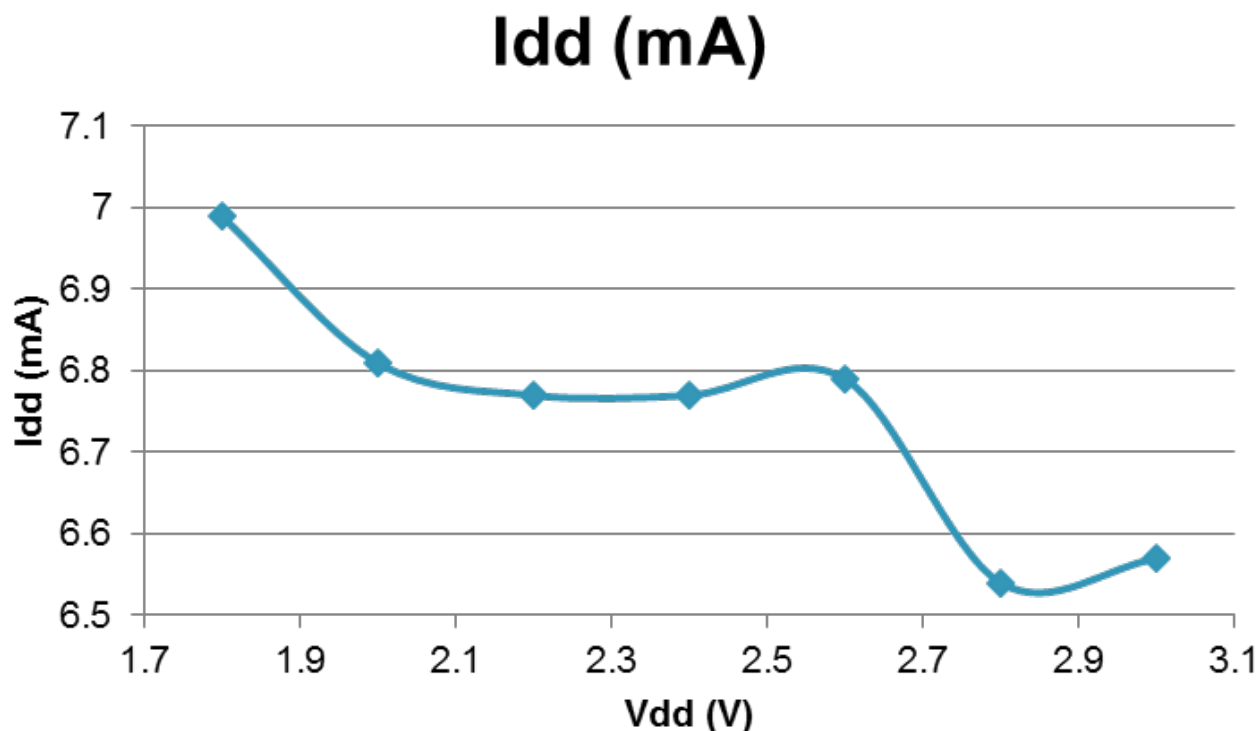
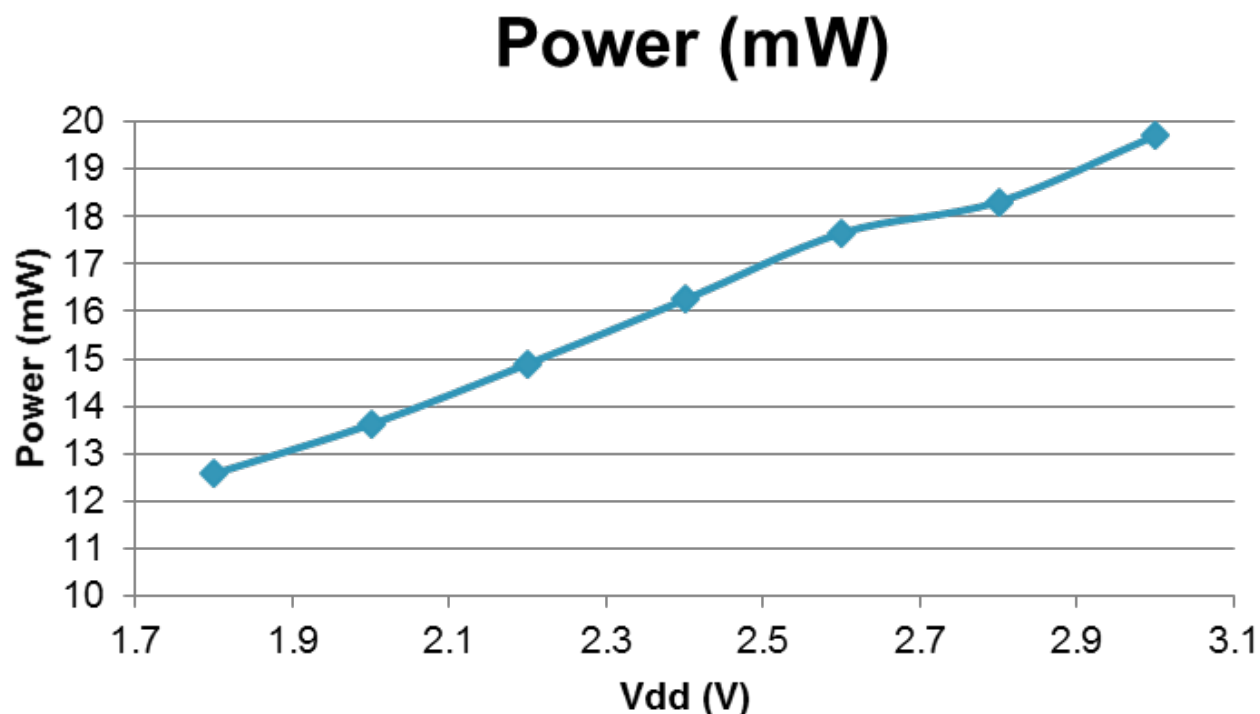

Figure 7. Kinetis MCUs typical Idd versus Vdd
Figure 8. Kinetis MCUs Power versus Vdd
19. Lowest Idd is not necessarily at the lowest power. Figure 7 shows a typical IDD versus Voltage curve for a Kinetis L MCU. Figure 8 below shows the overall power curve power = IDD * VDD. Notice that running the MCU at lower VDD values does reduce power consumption but at the expense of higher IDD's.